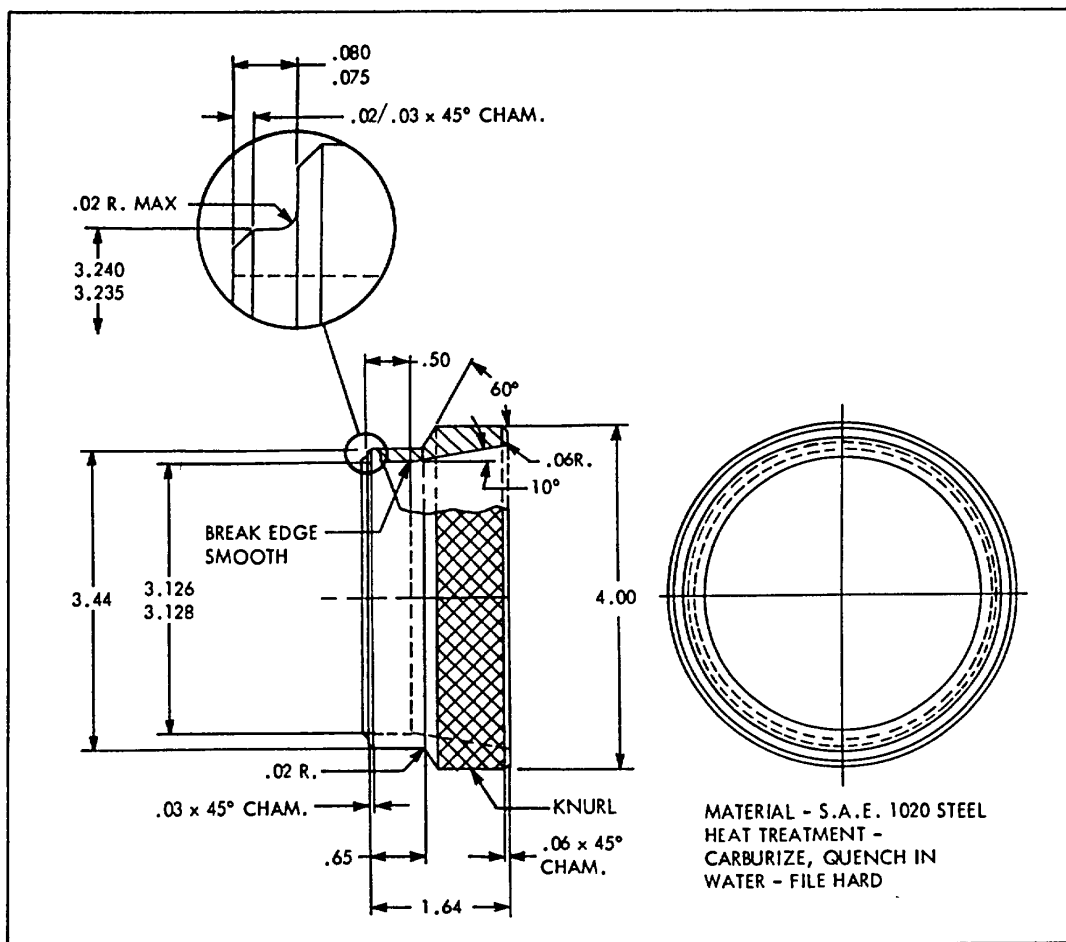

Figure 6-13. Steering Gear Piston Ring Compressor Tool Details
2. Install valve assembly and worm in housing (87) as integral unit. Adjust thrust bearings as outlined in paragraph 6-91.
3. Position ring compressor (see figure 6-13 for tool details) in gear housing (87) tight against shoulder of housing. Insert rack-piston ball nut (65) into housing until arbor engages worm. Turn stub shaft (76) clockwise, drawing rack-piston nut into housing. When piston ring is in housing bore, withdraw arbor from rack-piston nut. Remove ring compressor.